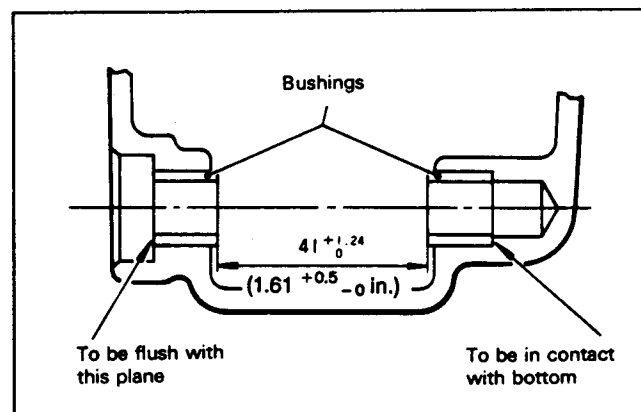

Figure 86
D. If necessary replace the governor bushings (Fig. 86).